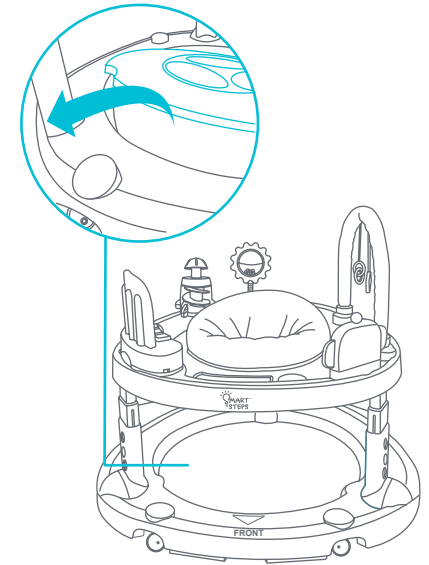

Fig. 11
- To remove, gently lift the walker up, and remove the Tippy Tap Dance Board (Fig. 11).